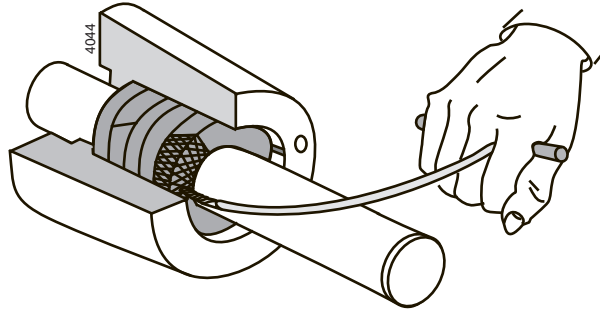

Figure 6: Removal of packing rings with a packing puller.
- 2 Remove the packing rings from the stuffing box. Use the special packing puller for this, see figure 6.